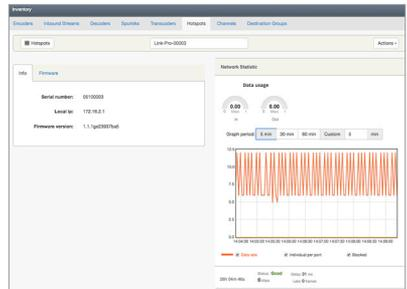

Fig. 4
- 2 Tap the **Details** button to see network statistics such as data usage, data rate, and connection status (Fig.4).